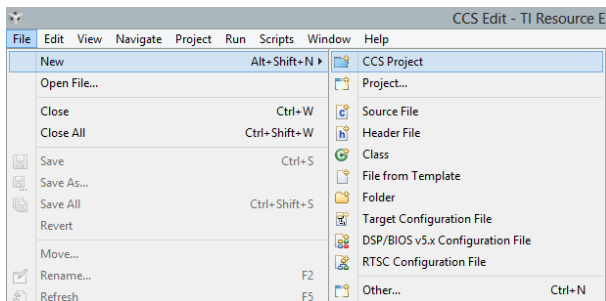

Fig. 1.5. Creating a new project in CCS.
2. Click on file on the menu and under new select CCS Project, see Fig. 1.5.